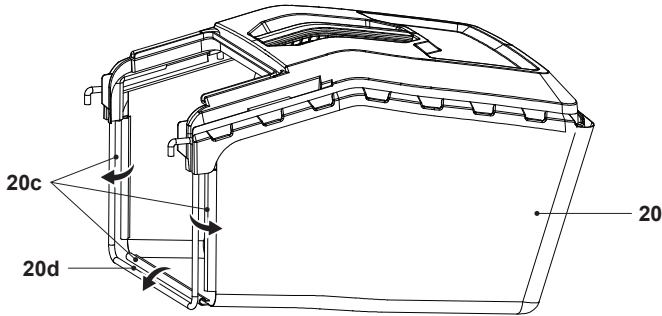

Fig. 5
1. The grass catcher (20) is partly assembled at delivery status.
2. Clip the three rubber clips (20c) onto the supporting rod (20d) of the grass catcher (20) (Fig. 5) and the grass catcher (20) is ready for use.